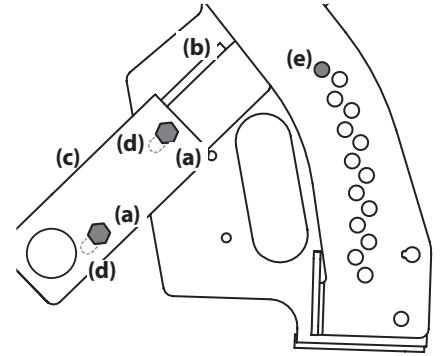

Figure 29
- Loosen -- but do not remove -- the two hex screws (a) and flange lock nuts (a) that secure the handle (b) to right lift arm (c). See Figure 29. The handle has two slotted holes (d) to allow for the adjustment.
- Lift the deck lift handle into the highest mowing position (e). See Figure 29 and the Operation section.
- With the deck lift handle in the highest mowing position (e) re-tighten the hex screws and flange lock nuts loosened in Step 1. See Figure 29. Torque the hardware to 180 in-lbs.